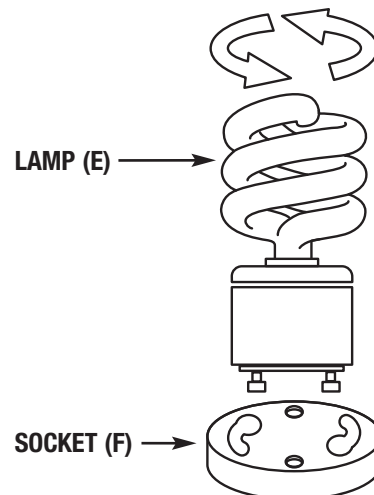

FIGURE 2
GROUNDING INSTRUCTIONS: The green grounding screw (G) is to be inserted into the hole with two raised dimples provided on the universal mounting bar (B). Wrap the ground wire from the fixture (if supplied) and the ground wire from the outlet box (bare metal or green insulated wire) around the green grounding screw (G) on the universal mounting bar (B). If uninsulated ground wire is on the universal mounting bar (B), connect the ground wire from the fixture (if supplied) and the outlet box to it using a small wire connector (not supplied) (See Figure 2).